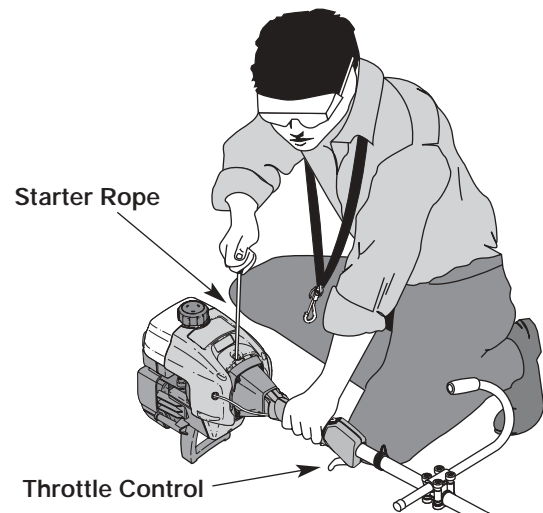

Fig. 18
**WARNING:** Avoid accidental starting. Make sure you are in the starting position when pulling the starter rope (Fig. 18). To avoid serious injury, the operator and unit must be in a stable position while starting.
5. While the unit is in the starting position (Fig. 18), **DO NOT SQUEEZE THE THROTTLE CONTROL**. Pull the starter rope briskly 5 times, making sure the EZ-Start™ lever is pushed to the left. If the engine starts to run before the fifth pull, proceed to step 6. If the engine does not start, go back to step 3.
1. Release your hand from the throttle control (Fig. 18). Allow the engine to cool down by idling.